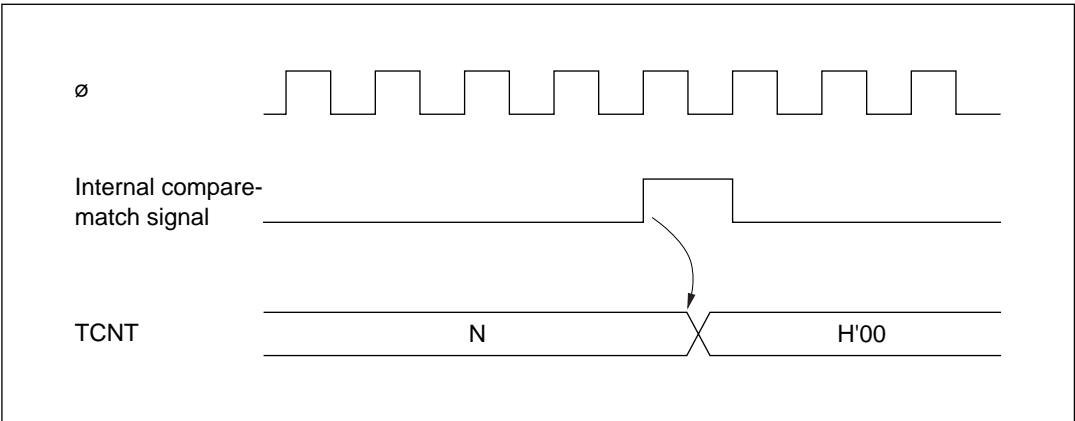

Figure 9-6 Timing of Compare-Match Clear
(3) Timing of Compare-Match Clear: Depending on the CCLR1 and CCLR0 bits in TCR, the timer counter can be cleared when compare-match A or B occurs. Figure 9-6 shows the timing of this operation.